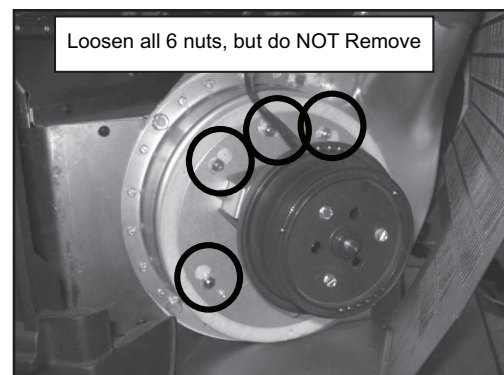

Figure 36.4
2. Remove side panel and then using an 11/32 nut driver to loosen all six nuts, but do not remove. Rotate the blower and remove from the housing. **Figure 36.4.**